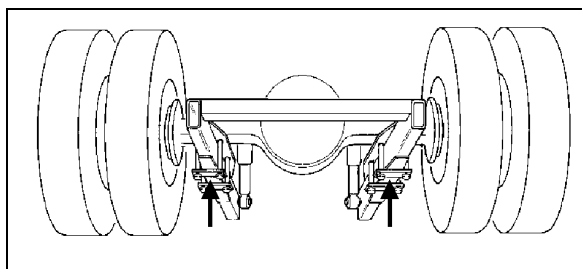

FIGURE 5: JACKING POINTS ON DRIVE AXLE 11005
8. Install jacks under the axle jacking points to support the axle weight (refer to figure 5).